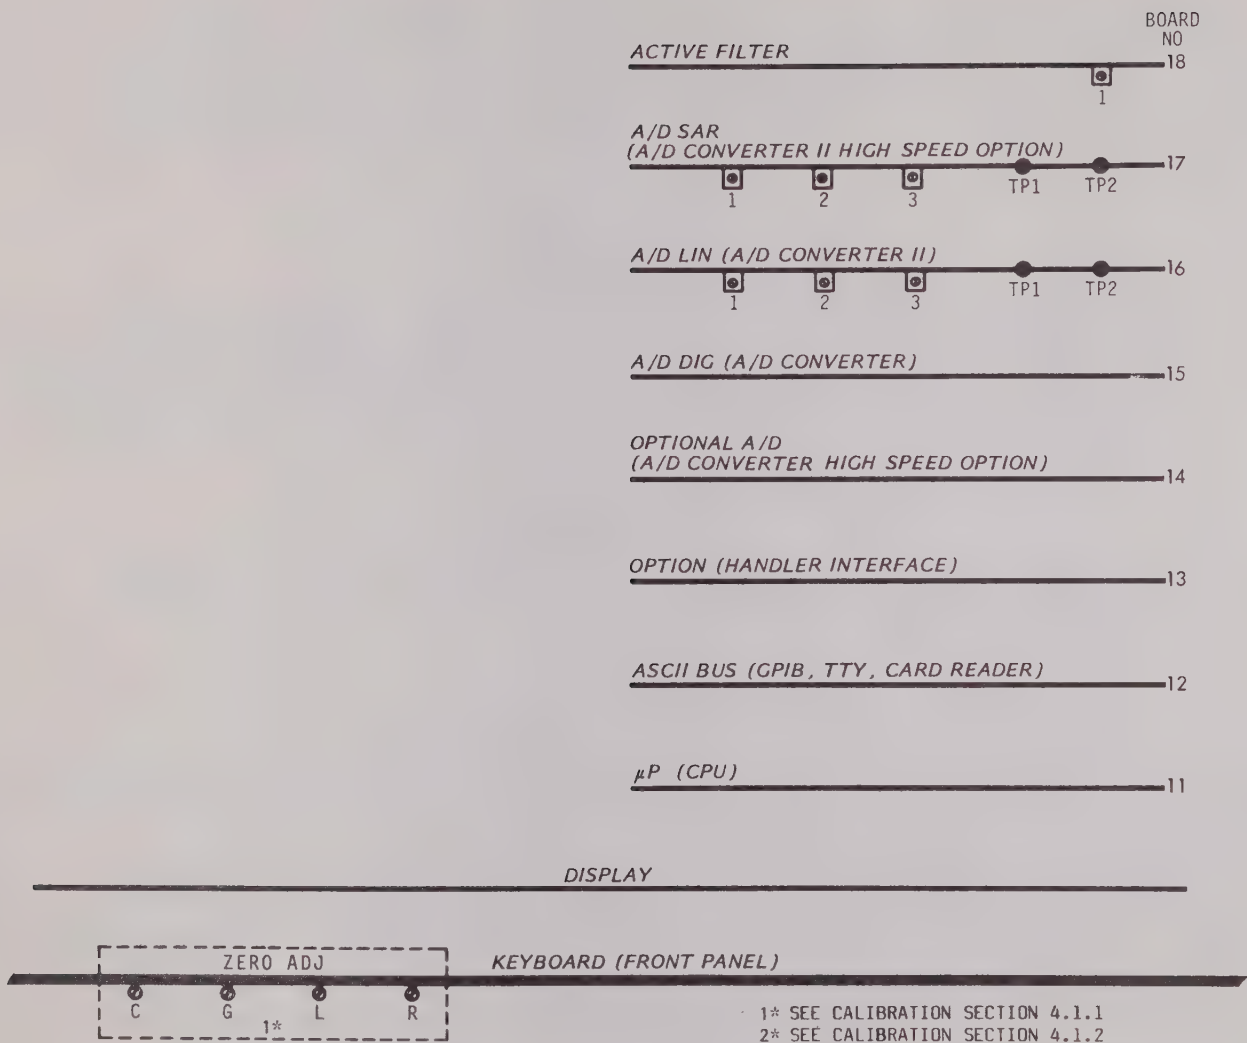

Figure A-1. Option Locations
Options for Model 296, 296V and 410 LRC meters are plug-in circuit assemblies. Three sites are available for options in the 296 and 296V and only two are available in the Model 410 (see Table A-1). One option from each group can be plugged in at a time and can be plugged into only the one site assigned. Refer to Figure A-1 for location of options.
The IEEE circuit assembly is installed by plugging it into the location marked ASCII BUS (12), see Figure A-1.